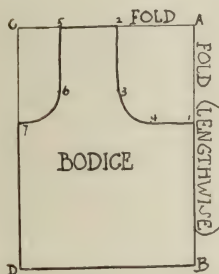

FIG. 3
SAFETY POCKETS FOR TRAVELERS. The first of leather, the second of linen. Cut a strip of kid 14" long and 6" wide. Round the corners. Line with silk, turning edges in. Stitch around lid A. Cut two pockets, B, $2\frac{1}{2}$ " square, rounding lower corners, and stitch as shown. Cut pocket lids, C, $1\frac{1}{2}$ " deep and 2" wide. Turn lid A on dotted line. Stitch on *ab*, including lids C. Cut strip of green taffeta silk (2). Baste on strip of kid *ghij*. Cut a strip of kid 7" \times 6". Line part corresponding to *ghkl* with silk and stitch edges. Adjust this to silk (2), upper edges corresponding. Stitch on *gh*. Cut silk strip 7" \times 6" (3). Apply kid strip 6" \times 2" to upper part, cut as at *mn*, stitch, and place 3 upon 2, lower ends corresponding. Stitch sides and base, making inside pocket. Cut strip of kid 6" \times 6". Line with silk, turn in edges. Stitch across top. Apply to 3, lower edges corresponding. Stitch 1, 2, 3, together. When completed, there is the long pocket, length of Fig. 2; middle pocket, length of Fig. 3, its lid buttoning on narrow kid on *gh*; and outside pocket, with *ghlk* for a lid. Buttons should be brown, and fasteners are ball and socket, glove style, or dress style sewed on. For pocket No. 2 cut a strip of butcher's linen 8" long and 5" wide. Cut off the corners of the lid as shown in the diagram, Fig. 4; turn in the edges on all sides; line with thin linen or Persian lawn; stitch; fold to make a pocket $2\frac{1}{2}$ " deep. Ornament the lid with large dots heavily padded. In the center cut out the cloth and fill in with lace stitches for the medallion. Fasten